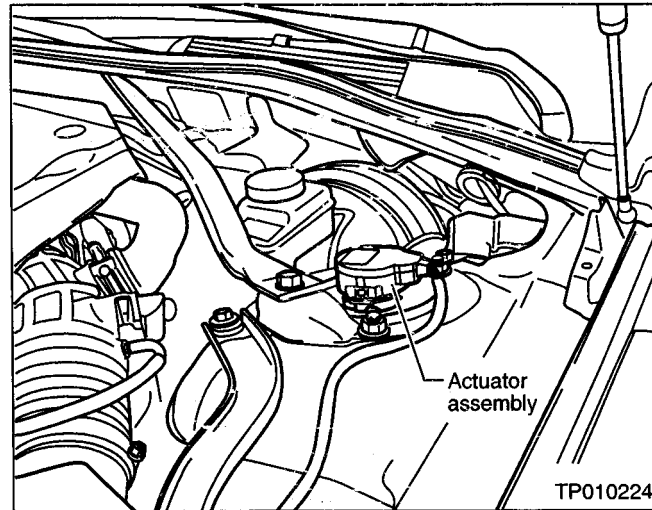

Figure 1
2. Verify the vehicle has electronically controlled suspension by locating and confirming it has an actuator assembly (see Figure 1).